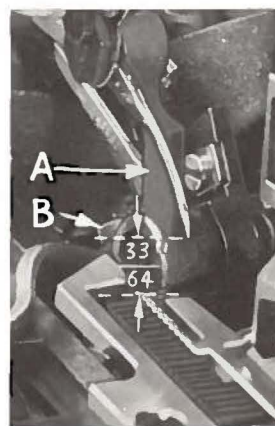

Fig. 3
With throat plate assembled in position, needle should center in the front end of needle slot. When needle is at high position, needle point should be set  $33/64$  inch above the throat plate (Fig. 3). To align needle or set the height above the throat plate, move needle driving arm (A, Fig. 3) by loosening clamp screw (B). After needle has been properly set, tighten clamp screw and remove throat plate.